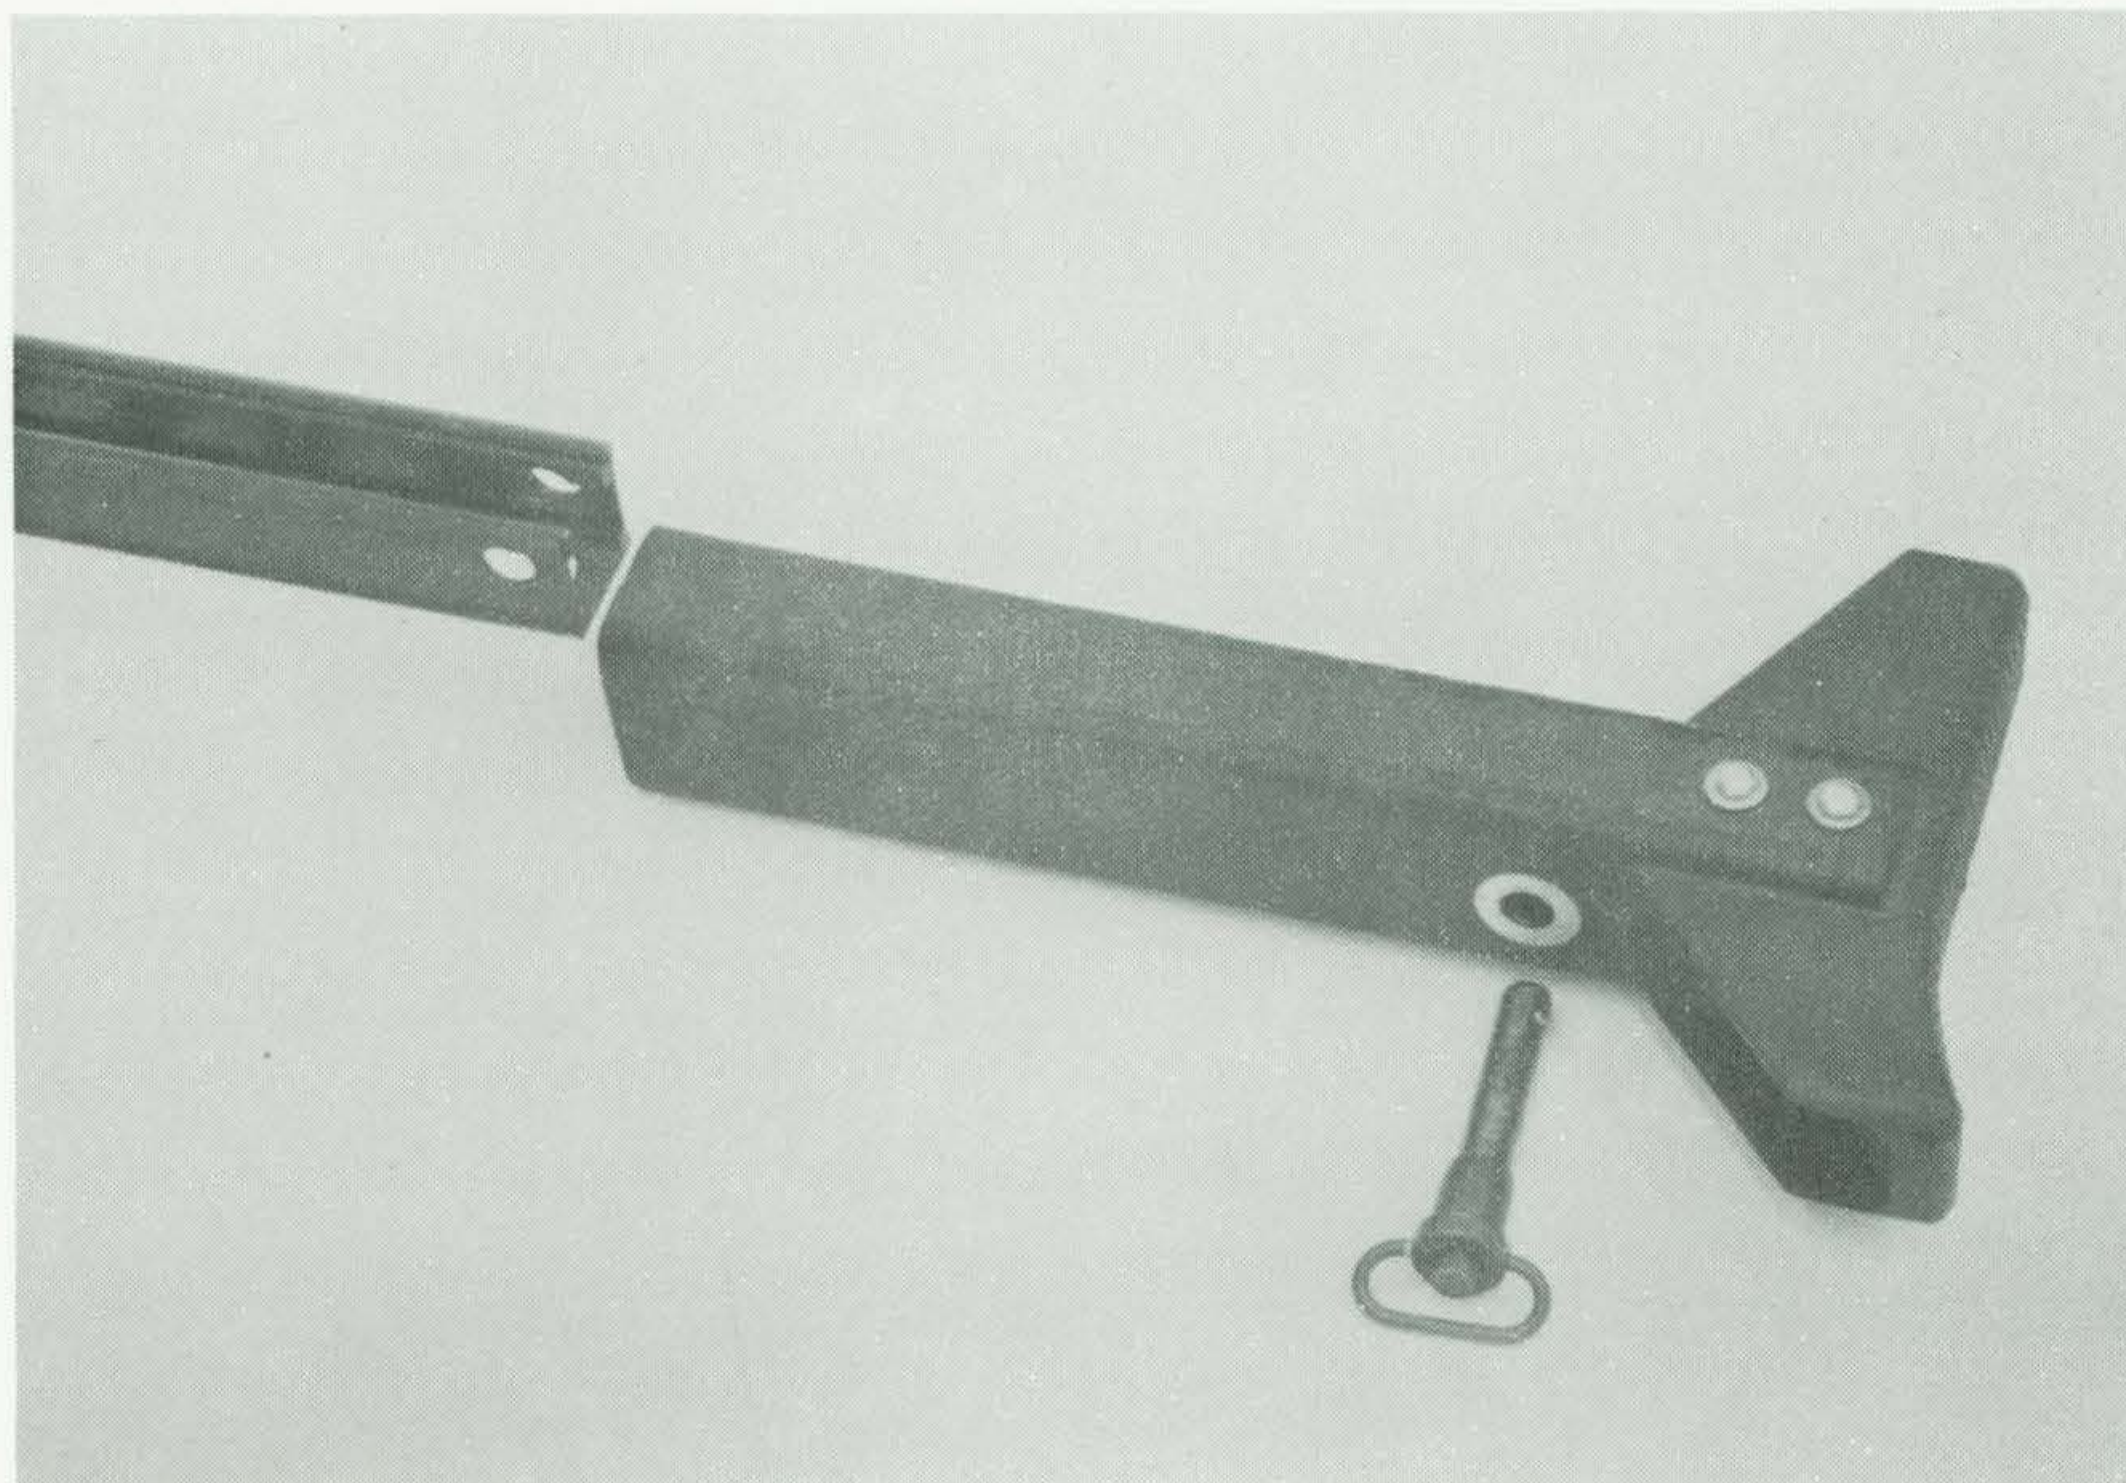

FIGURE 11. BUTTSTOCK REMOVED
b) Pull buttstock rearward to complete removal (Figure 11).